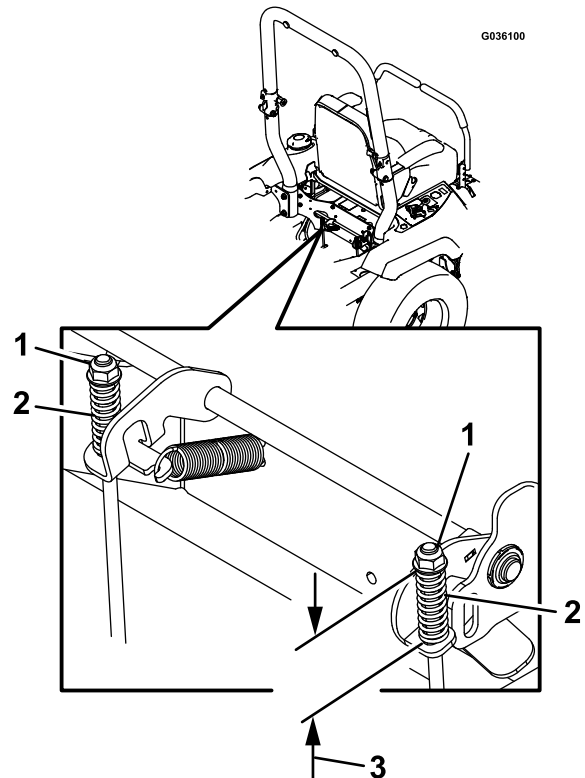

Figure 51
7. Check both spring lengths as shown in Figure 51. If an adjustment is necessary, turn the top nut clockwise to shorten the spring and counterclockwise to lengthen it.